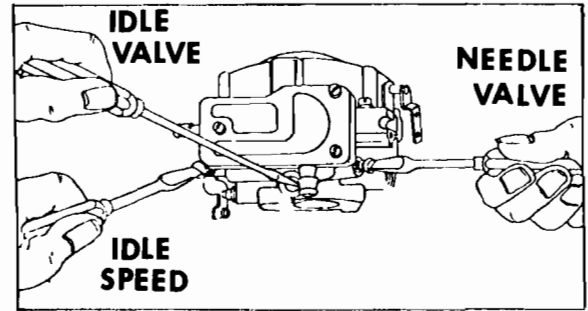

Fig. 3-30 C-161 Twin Carburetor Adjustment
**CARBURETOR ADJUSTMENT** — Turn needle valve clockwise until it just closes. **VALVE MAY BE DAMAGED BY TURNING IT IN TOO FAR.** Now open needle valve  $1\frac{1}{2}$  turns counterclockwise. Close idle valve in same manner and open  $1\frac{1}{2}$  turns. This initial adjustment will permit the engine to be started and warmed up prior to final adjustment. See Fig. 3-30.